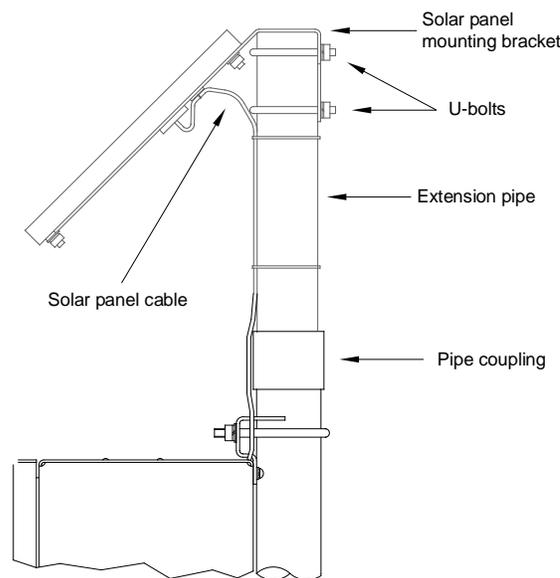

Figure 22: Solar panel installation
4. Attach the solar panel mounting plate to the top end of the mounting pipe with the U-bolts and associated mounting hardware (Figure 22). Do not tighten completely.